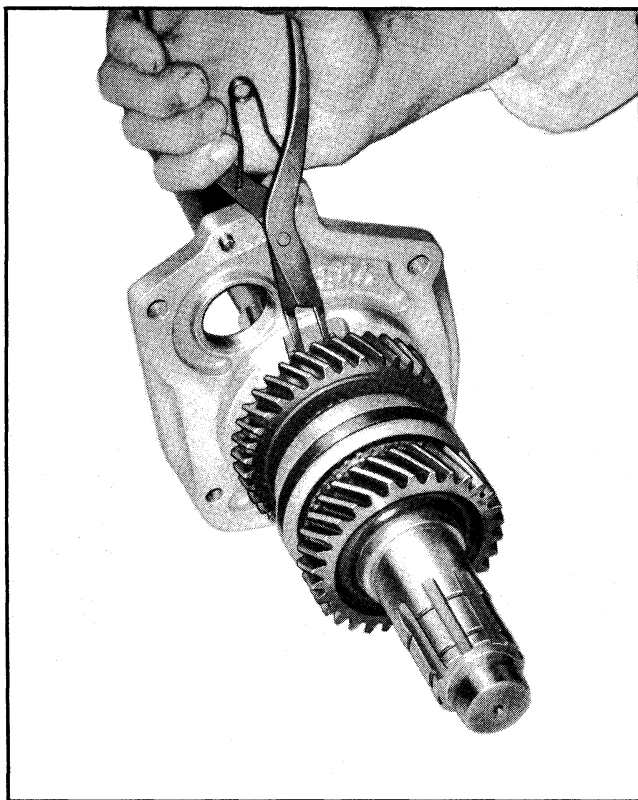

Fig. 7A-28 Installing Rear Bearing Retainer
9. Install the rear bearing retainer (Fig. 7A-28). Spread the snap ring in the plate to allow the snap ring to drop around the rear bearing and press on